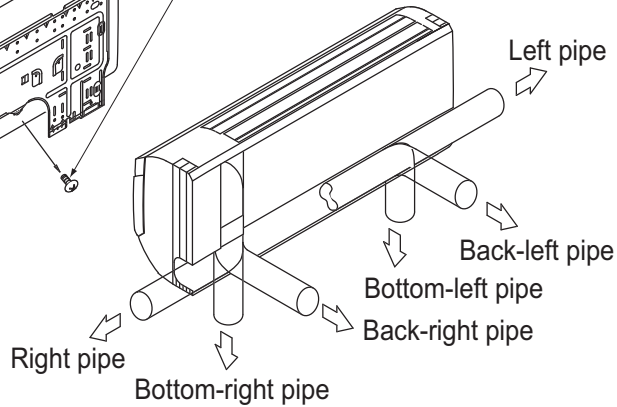

Fig. 4
- (a) Check the place for a hole for securing the installation plate (1).
- (b) Temporarily attach the installation plate (1) at the temporary-securing position using the hole, and use a level to make sure the plate is either level or its drain hose side is tilted slightly downward.
- (c) Secure the installation plate (1) to the wall using the attachment screws for the installation plate (2) or bolts.
- (2) Open the through-hole for the piping.
- The refrigerant pipe and drain pipe can be passed out in one of 6 directions: left, bottom-left, back-left, right, bottom-right, or back-right. (Refer to Fig. 4)
- Referring to the punch mark on the installation plate (1), choose where to pass the piping out and open a through-hole ( $\phi 80\text{mm}$ ) in the wall.